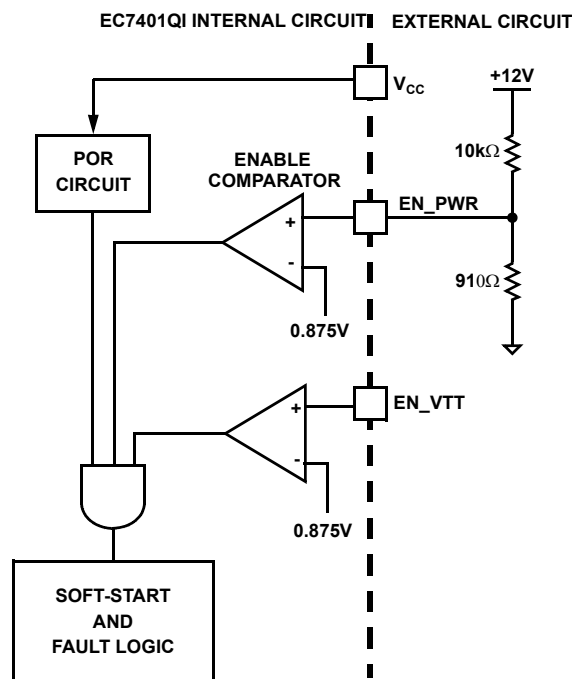

FIGURE 10. POWER SEQUENCING USING THRESHOLD-SENSITIVE ENABLE (EN) FUNCTION
2. The EC7401QI features an enable input (EN_PWR) for power sequencing between the controller bias voltage and another voltage rail. The enable comparator holds the EC7401QI in shutdown until the voltage at EN_PWR rises above 0.875V. The enable comparator has about 130mV of hysteresis to prevent bounce. It is important that the driver ICs reach their POR level before the EC7401QI becomes enabled. The schematic in Figure 10 demonstrates sequencing the EC7401QI with the ISL66xx family of MOSFET drivers, which require 12V bias.